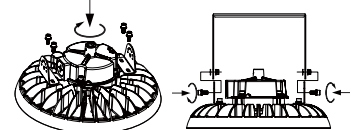

Figure 4
2. Install the RWUX-SMK on the fixture (figure 4)